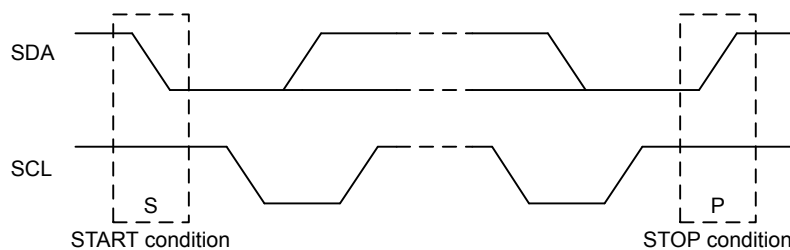

Figure 22.4. I²C START and STOP Conditions
START and STOP conditions are used to initiate and stop transactions on the I²C-bus. All transactions on the bus begin with a START condition (S) and end with a STOP condition (P). As shown in Figure 22.4 I²C START and STOP Conditions on page 697, a START condition is generated by pulling the SDA line low while SCL is high, and a STOP condition is generated by pulling the SDA line high while SCL is high.